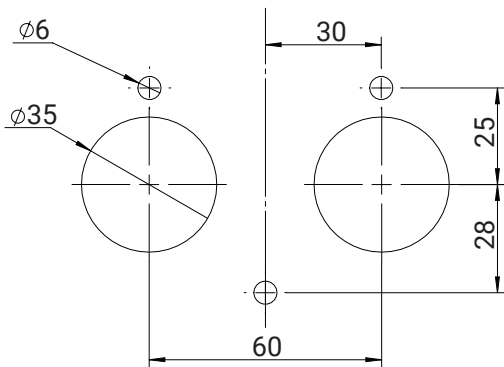

Figure 2-1
- ① Drill holes on the hull through the fixing guide referring to the figure 2-1.